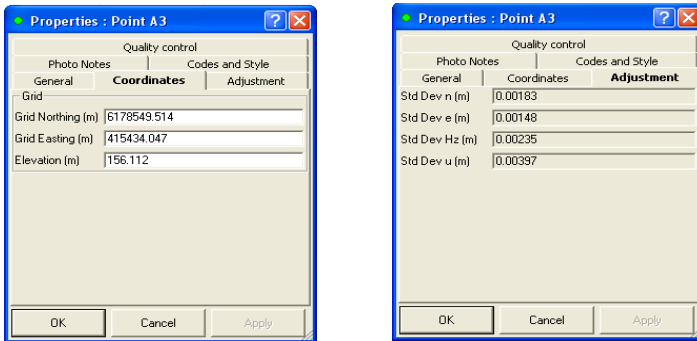

Figure 5-110. Coordinates and Adjustment Properties
- View or edit *Coordinates* tab fields (Figure 5-110). Available fields depend on the coordinate type selected in the Job Configuration window.
- View *Adjustment* tab fields for standard point deviations (only for adjusted GPS observations) (Figure 5-110).